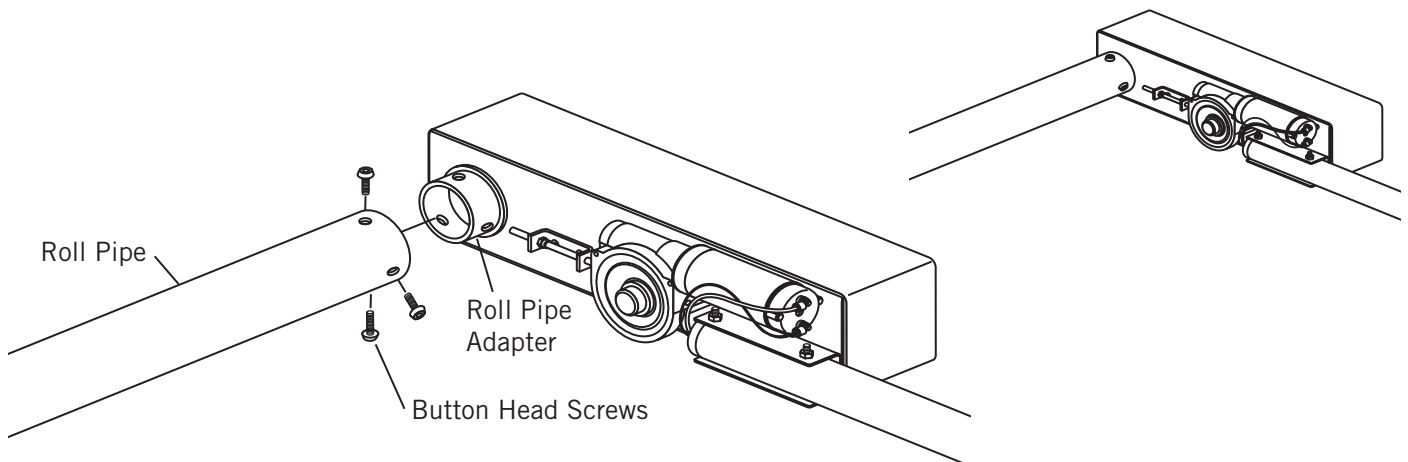

Figure 18
8) See Figure 18. Use three of the supplied 3/8" button head screws with lock washers to attach end of the roll pipe to the roll pipe adapter.